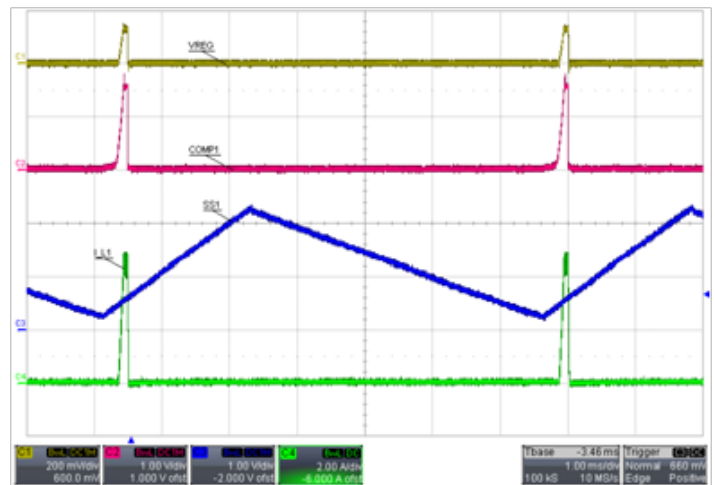

Figure 2: Pre-Regulator Hiccup Mode Operation when VREG is Shorted to GND and $C_{SS1} = 22\text{nF}$
6. Hiccup mode short-circuit protection (refere to Figure 2)